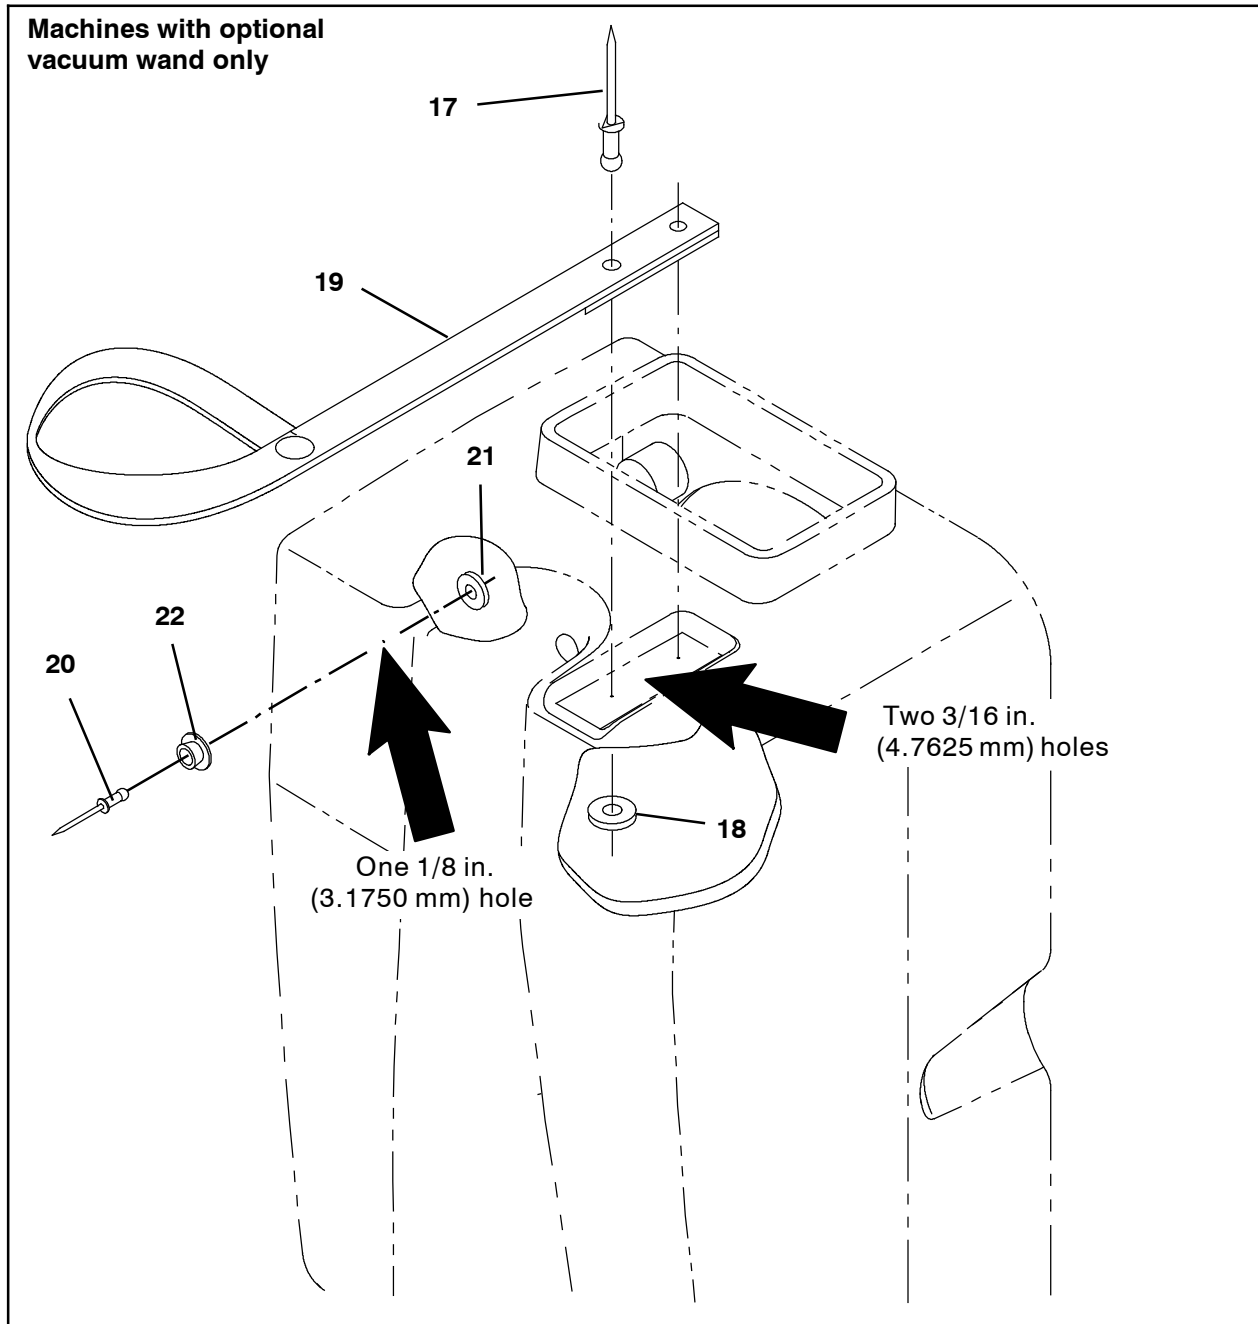

FIG. 2
10. **Machines with optional vacuum wand only:** Drill two 3/16 in. (4.7625 mm) holes and one 1/8 in. (3.1750 mm) hole into the vacuum fan housing (1). Look for drill points (indentations) in the vacuum fan housing for exact locations where holes should be drilled. (Fig. 2)
11. **Machines with optional vacuum wand only:** Use a rivet (20) and flat washer (21) to install the push snap catch (22) onto the vacuum fan housing (1). (Fig. 2)
12. **Machines with optional vacuum wand only:** Use two rivets (17) and two washers (18) to install the handle retainer strap (19) onto the vacuum fan housing (1). (Fig. 2)